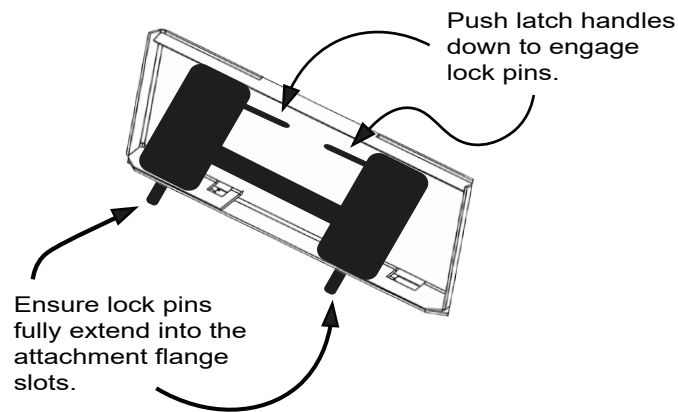

FIGURE 3.1B QUICK ATTACH COUPLER LOCKED TO ATTACHMENT BRACKET
4. Activate your skid steer's lever lock switch to lock the pins into the brush cutter's attachment bracket. If your skid steer does not have this switch, manually lock the pins as shown in Figure 3.1b below.